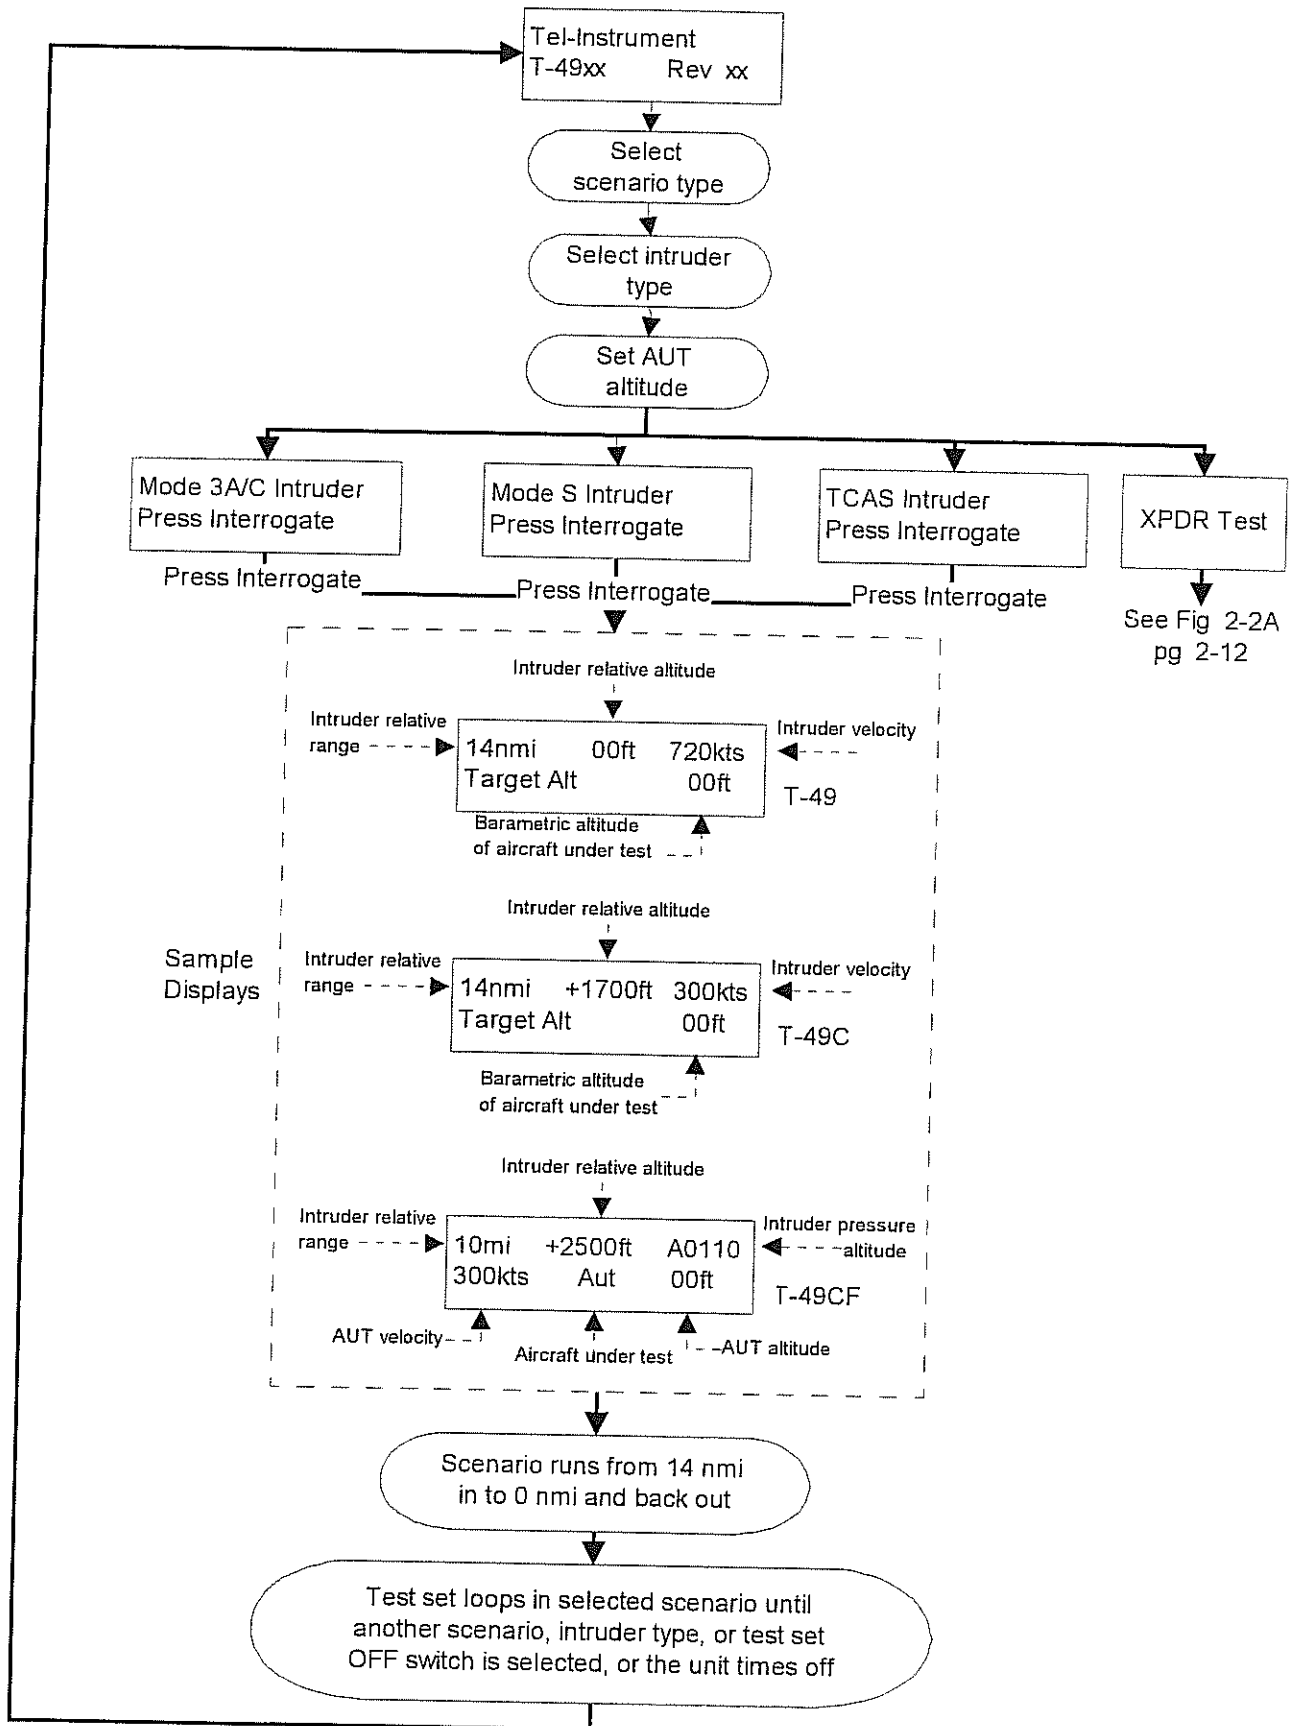

Figure 2-4
| 7 Press INTERROGATE | The T-49 will automatically perform tests outlined in Figure 2-4 |
- 8 Select each of the remaining intruder scenarios in turn. After each selection, press INTERROGATE switch once. As noted in Figure 2-4
- 10 In turn, select each of the intruder scenarios. After each selection, press INTERROGATE. As noted in Figure 2-4
- 11 Place Function switch at TCAS (This position Simulates approach of an intruder aircraft equipped with a TCAS Transponder). As noted in Figure 2-4
- 12 In turn, select each of the intruder scenarios. After each selection, press INTERROGATE. As noted in Figure 2-4